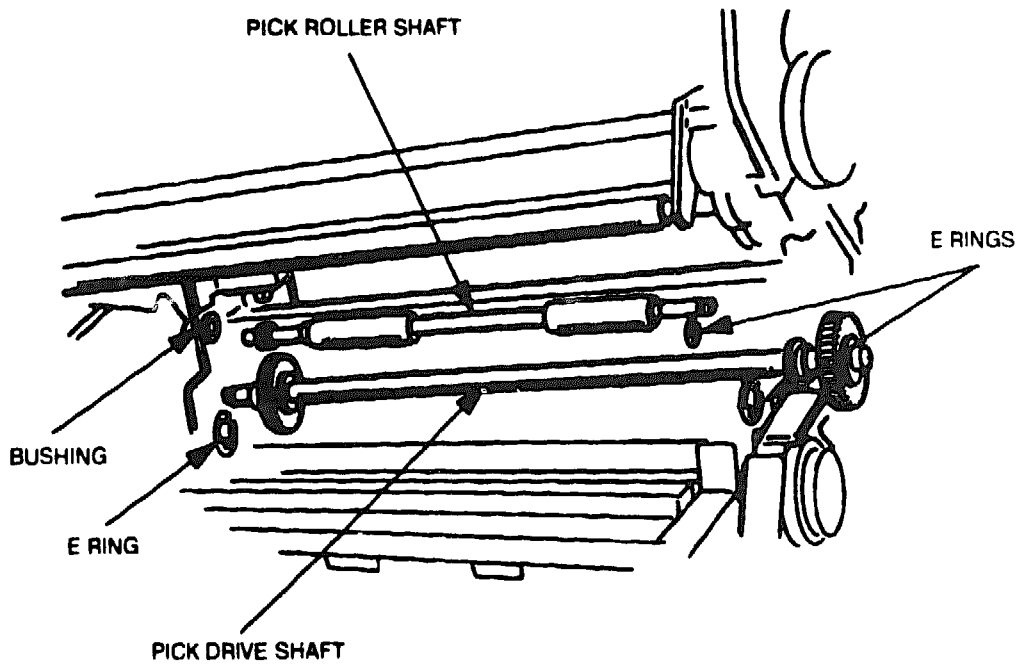

Figure 6-18 Pick Roller Removal
2. With the upper unit open, use a flat-tip screwdriver to remove the two E retaining rings on the pick drive shaft (see Figure 6-18).
3. Slide the bushing to the left on the right side of the pick drive shaft (see Figure 6-18). Slightly lift the right side of the shaft off the support frame.
5. Using a flat-tip screwdriver, remove the E retaining ring on the pick roller shaft (see Figure 6-18).
6. Slide the pick roller to the right and out of its left support bushing. Then remove the pick roller from the printer (see Figure 6-18).